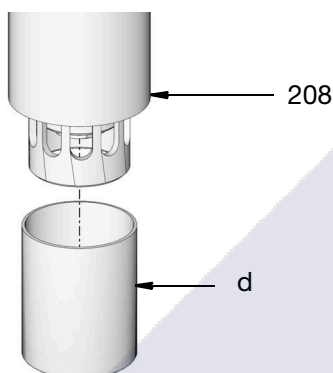

FIG. 6
3. Remove protective cap (d) from pump down-tube (208) (FIG. 6). Discard cap. You will not use it again.